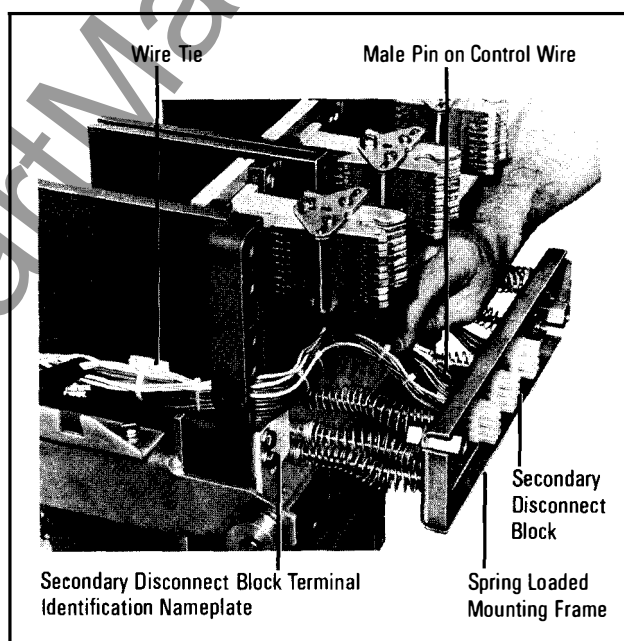

Fig. 9 *Typical Control Wire Connections to Secondary Stab Block on a Drawout Breaker*
6. On drawout breakers, connect the four color coded control wires (A7, A8, A9, and A10) to the secondary control disconnect blocks as illustrated in Fig. 9. On fixed mounted breaker, these should be connected to side mounted terminal blocks – when provided – or to alternate terminal blocks in the switchboard when the breaker is re-installed.